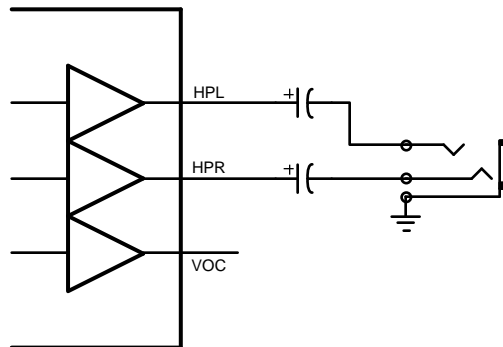

Figure 94. Capacitor Coupled Headphone Mode
In capacitor coupled (CC) mode, the VOC pin is disabled, and the headphone outputs are coupled to the jack through series capacitors, allowing the headphone return to be connected to GND (Figure 94). In CC mode, the LM4949 requires output coupling capacitors to block the DC component of the amplifier output, preventing DC current from flowing to the load. The output capacitor and speaker impedance form a high pass filter with a -3dB roll-off determined by: